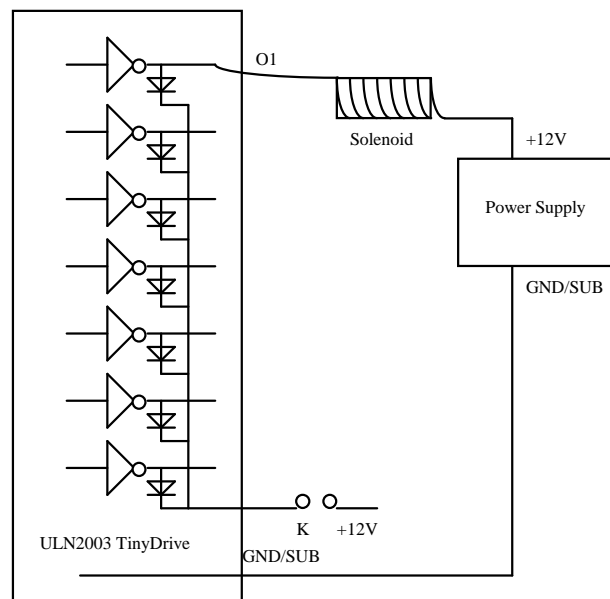

Figure 3.5 Drive inductive load with high voltage/current drivers.
reserved for driving the CCFL backlighting, leaving five for the user. These outputs may be paralleled to achieve high-load capability, although each driver has a maximum continuous collector current rating of 350 mA at 50V. The maximum power dissipation allowed is 2.20 W per chip at 25 degrees C (°C). The common substrate G is routed to J5 pin 38. All currents sinking in must return to the J5 pin38. A heavy gauge (20) wire must be used to connect the J5 G terminal to an external common ground return. K connects to the protection diodes in the ULN2003 chips and should be tied to highest voltage in the external load system. K can be connected to a user provided voltage at J5 pin 40. **ULN2003 is a sinking driver, not a sourcing driver.** An example of typical application wiring is shown in Figure 3.5.